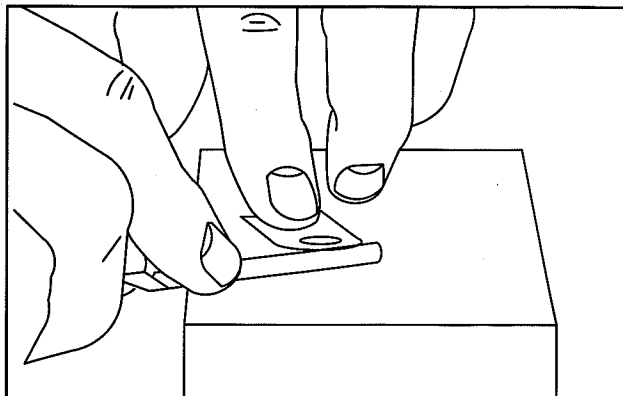

Fig. 17 – Check Reed Stop
1. While holding mounting surface of reed stop on flat surface, use the following drills to check reed stop height, Fig. 17.